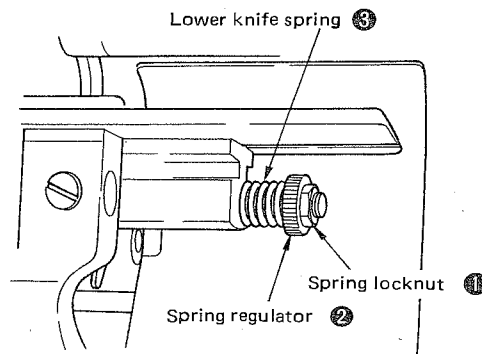

Fig. IV-8-3
Adjust the standard pressure of lower knife spring ③ so that the spring works under a pressure of 1.2 to 1.5 kg. (See Fig. IV-8-3)